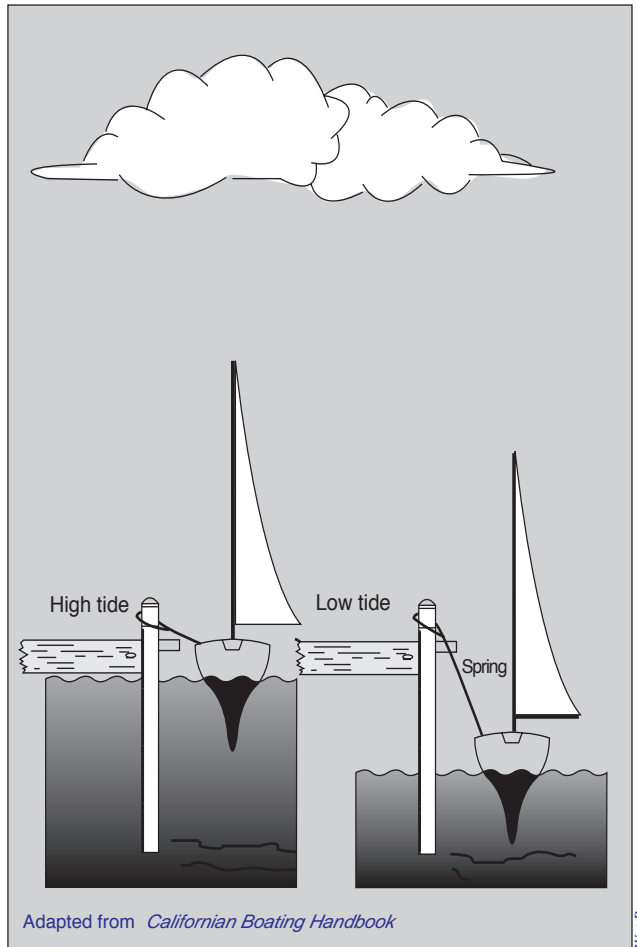

Figure 22.5 A longer line allows for tides
Describe how a jetty or pontoon could be designed to account for tides. Use diagrams to illustrate your answer (refer to Figure 22.5).
- Allow a longer line at the bow and stern to account for tides, as shown in Figure 22.5. This is why they are also called springs.